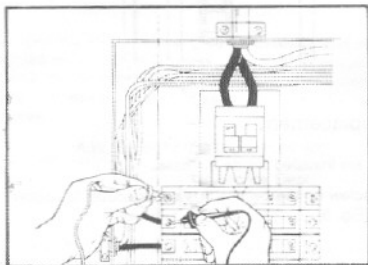

Fig. 2
- 3) Connect the prod tips to the circuit under test (Fig. 2) and read the voltage directly on the display.